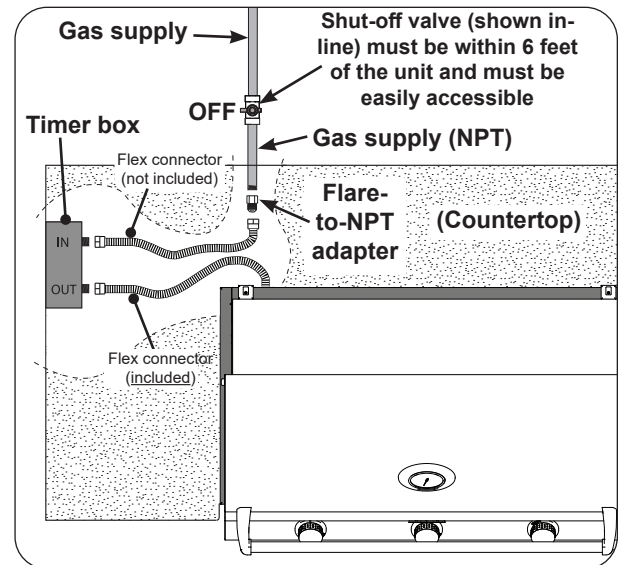

Fig. 26-2 Household LP & Nat. gas diagram
3. Using two wrenches, connect the flex connector coming from the grill to the $\frac{1}{2}$ " **flare adapter labeled OUT**. See Fig. 26-2. Ensure the connection is tightened securely.
4. **Connect gas source to IN:** Using two wrenches, connect a flex connector (not included) to the $\frac{1}{2}$ " **flare adapter labeled IN**. See Fig. 26-2. Ensure the connection is tightened securely.
5. Route the flex connector coming from the timer box to the gas supply stub (see Fig. 26-2).